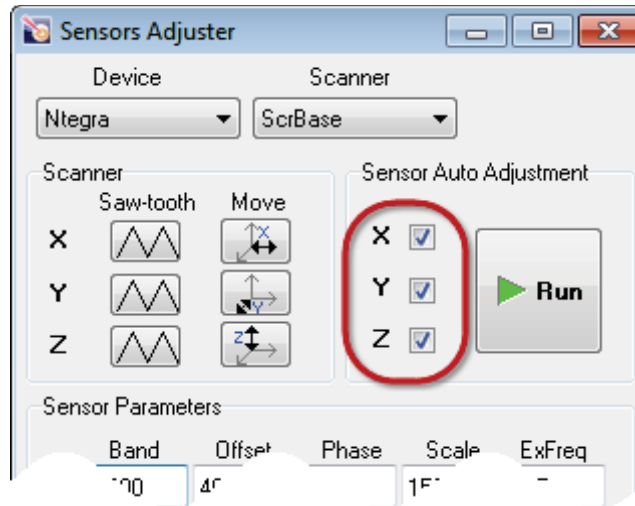

Fig. 1-13. Displacement sensors adjustment window
4. In the **Sensor Auto Adjustment** panel (Fig. 1-13) mark the check boxes for the sensors to be adjusted.